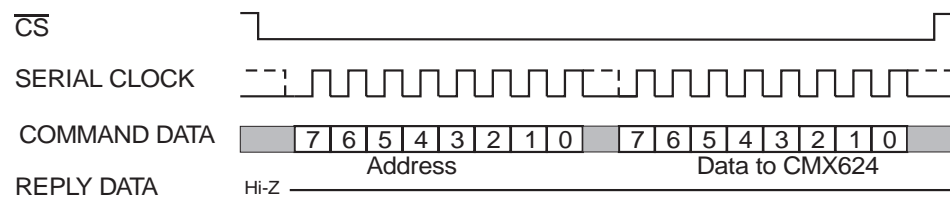

Figure 4: Serial Bus Transactions (One Address and one Data byte from  $\mu\text{C}$ )
1. A single data byte sent from the  $\mu\text{C}$  to be written into one of the CMX624's Write Only Registers, as illustrated in Figure 4.